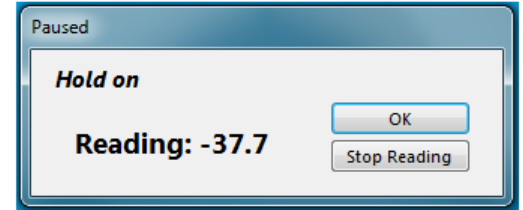

Figure 6.5: A sample sequence with pause messages enabled.
- Pauses can be added to a series of tests. Simply check the box under the Pause column where a pause is desired (see Fig. 6.5).